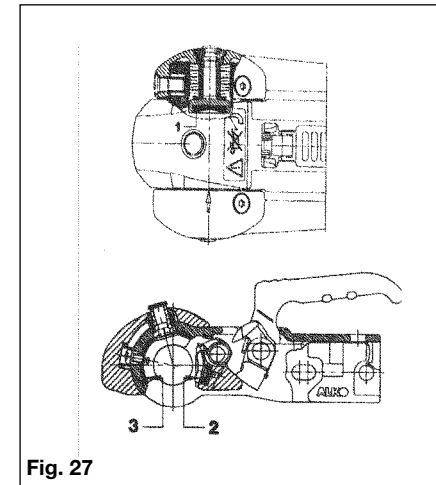

Fig. 27
**Please Note:** The friction pads (Fig. 27/1,2,3) are pressed against the towball and hence generate a stabilising/damping force. These pads are therefore subject to wear over time, however they will have a long service life (circa.30,000 Miles), provided they are well maintained and kept free of grease/dirt.